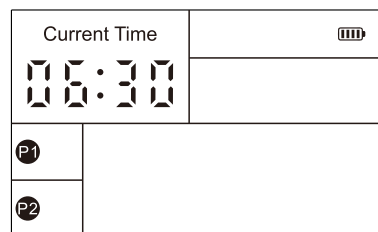

Figure 2
- 1) After the "Current Time" is completed, enter P1 and P2 program selection, as shown in Figure 2. When "P1" flashes, press the "Down" or "Up" to select the "P1" or "P2" program. The default is the "P1" program. Press the "Down", "P2" flashes, it indicates the selected "P2" program.